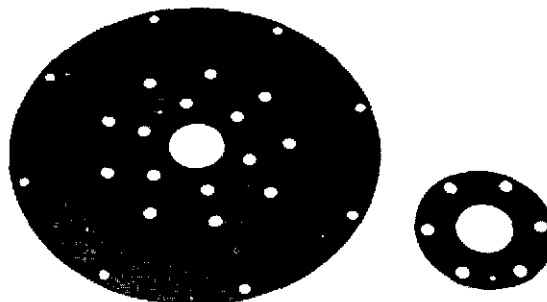

FIGURE 6-31
1. Inspect the drive discs for distorted or bent edges. (Figure 6-31) Inspect for worn mounting holes. Replace any defective discs.